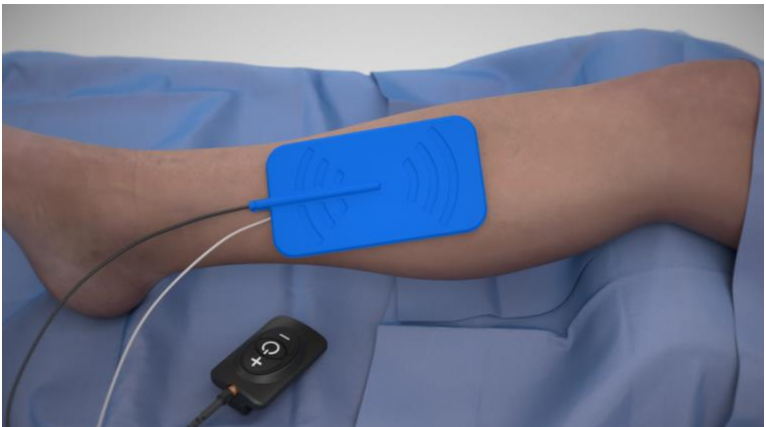

Figure 4
2. Position the blue antenna with the black side down, lengthwise, between the two silver marker bands along the neurostimulator. (Figure 4).